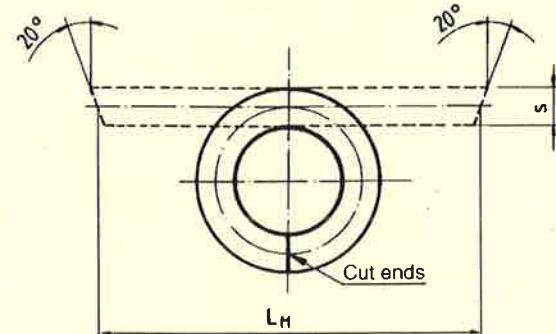

Figure 1: Cutting packing rings
**With cuts** we recommend the straight vertical cut to the shaft. In order to achieve a gap-free, parallel position of the cutting ends when closing the packing ring, the cutting angle should be approx. 20° to both cut ends (see figure 1).